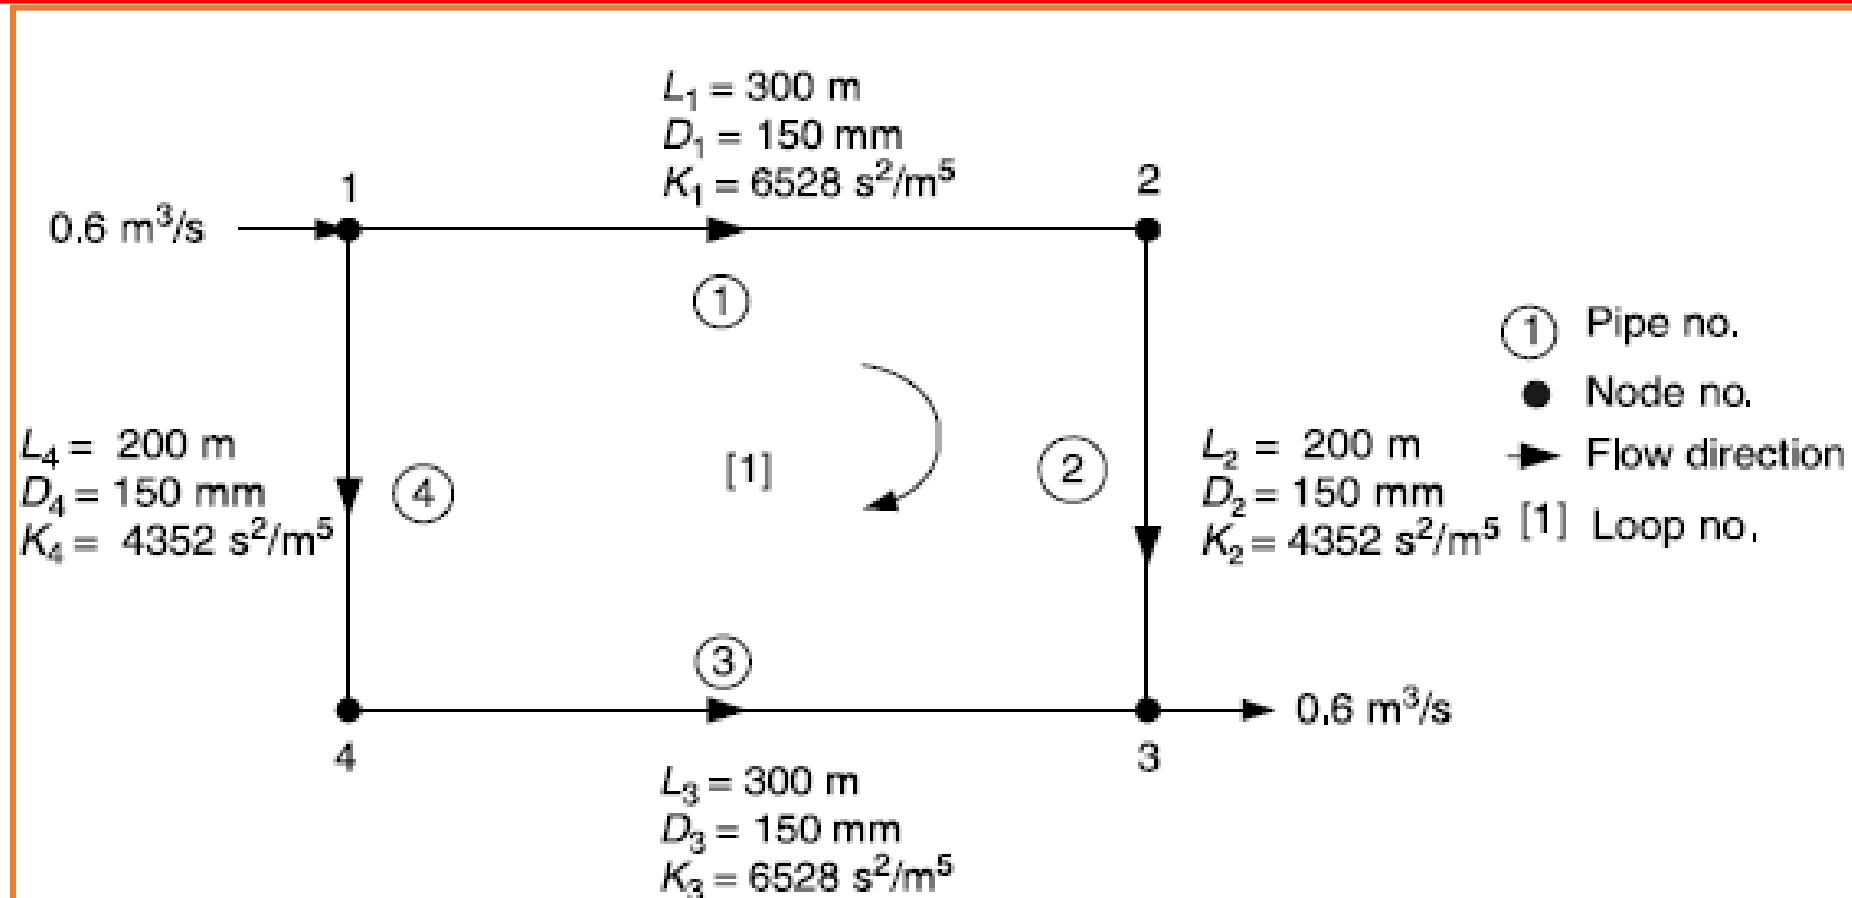

Figure 3.10. Single looped network.
Example 3.3. A single looped network as shown in Fig. 3.10 has to be analyzed by the Hardy Cross method for given inflow and outflow discharges. The pipe diameters D and lengths L are shown in the figure. Use Darcy–Weisbach head loss–discharge relationship assuming a constant friction factor $f = 0.02$.
Step 1: The pipes, nodes, and loop are numbered as shown in Fig. 3.10.
Step 4: For assumed pipe friction factors $f_i = 0.02$, the calculated K values as $K = 8fL/\pi^2 gD^5$ for all the pipes are given in the Fig. 3.10.